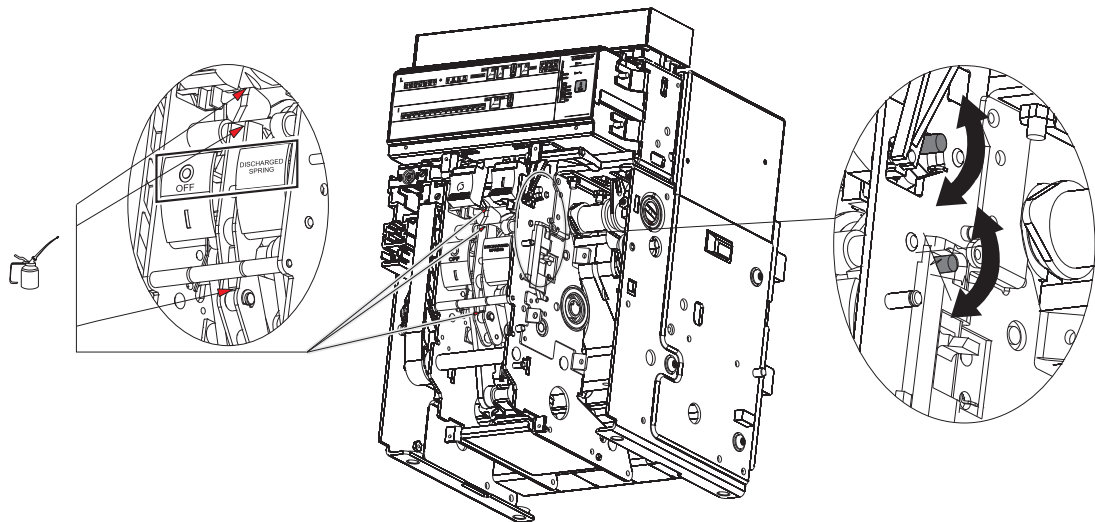

Fig. 35
- Clean at the points indicated in figure 35. For excessive deposits, a laminated dilutant such as Henkel 273471 or the equivalent can be used.
- Lubricate, at the points indicated in fig. 35, the opening-closing shafts and hooks with MOBILGREASE 28 (EXXON MOBIL).